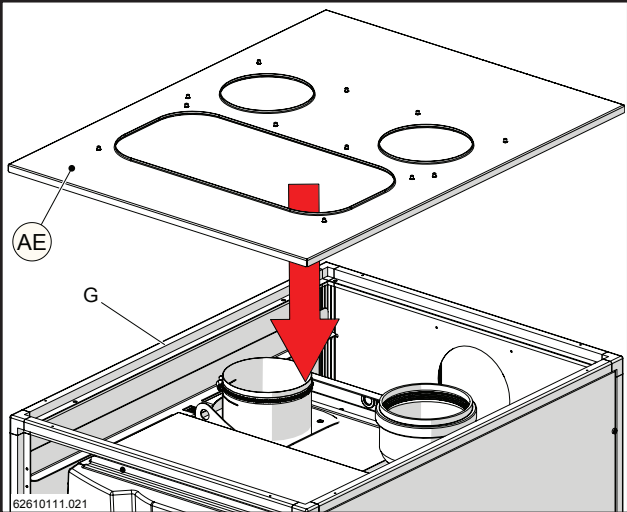
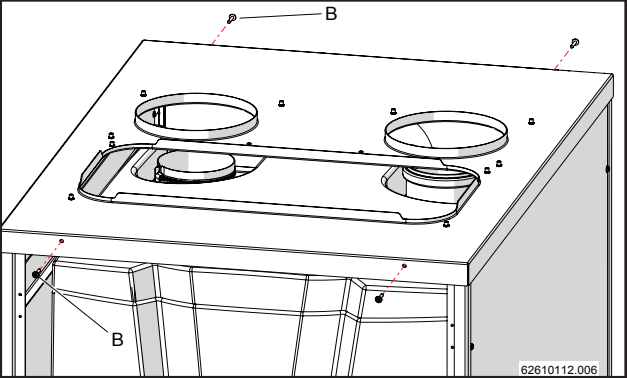

Figure 15-23
Figure 15-24
- 13.- Position the top cover (AE) as shown in figure 15-23 and fix it to the upper framework "G" using screws "B" (figure 15-24), in correspondence with the holes present.